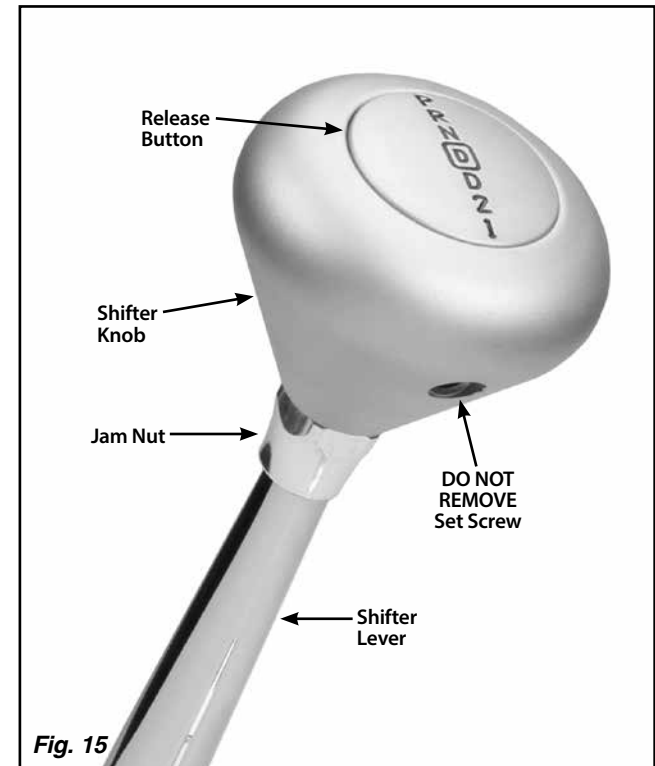

Fig. 15
Step 2: Loosen the jam nut below the shifter knob by turning it **clockwise**. **DO NOT** loosen or remove the set screw in the knob. **Fig. 15**